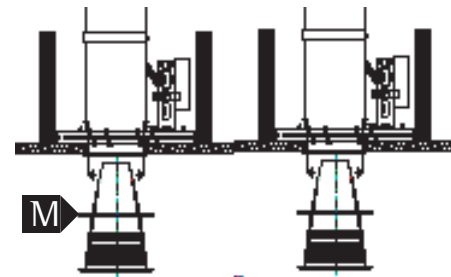

Figure 7
7. **For AT Trims:** position gasket on trim. Press gasket ground lip of trim (see figure 7). Install trim by one of the following methods.